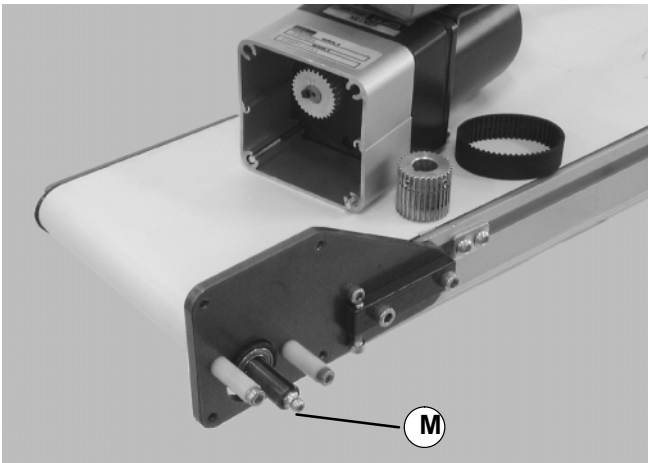

Figure 17
4. Lubricate the pulley bearing on the drive side through the drive shaft grease fitting (M of Figure 17).